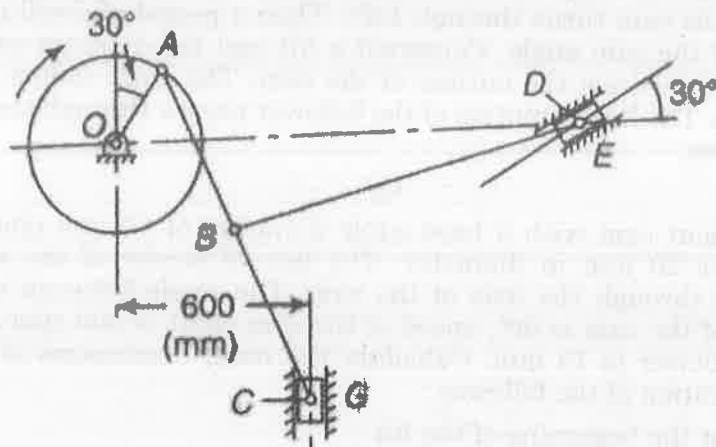

Figure 5
12. (a) For the mechanism shown in Figure 5,  $OA = 300$  mm,  $AB = 600$  mm,  $AC = BD = 1200$  mm.  $OD$  is horizontal for the given configuration. If  $OA$  rotates at 200 rpm in the clockwise direction, find
- (ii) angular velocities of links  $AC$  and  $BD$ . (6)